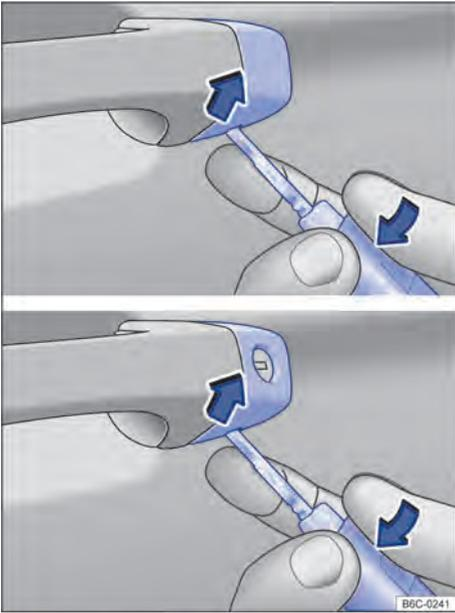

Fig. 53 Driver's door handle: remove cover.
- Lift the cover cap with the vehicle key in the direction indicated by the arrow → Fig. 53.